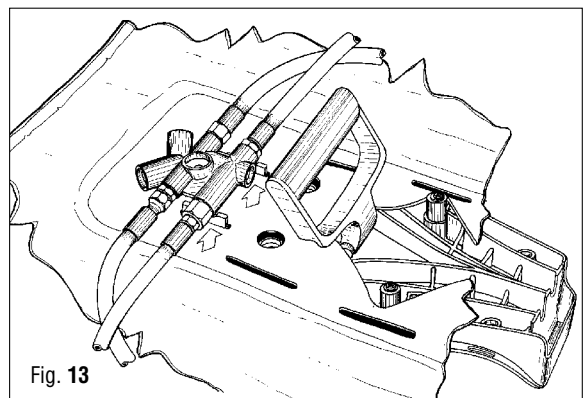
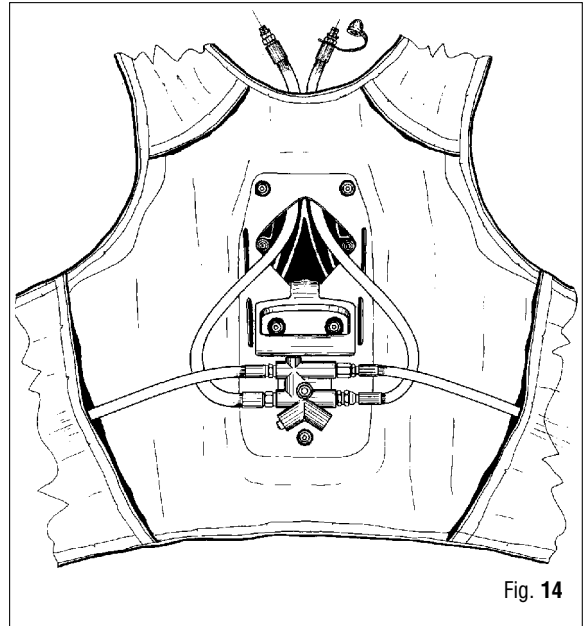

Fig. 13
Fig. 14
97. Position the 7-way manifold system assembly in tank plate support seat, outside the bag. (Fig. 13)
98. Lock the manifold with screw (3), using a screwdriver (USAG 322 PH1 type).
99. Put hose (7) in bag top opening, under inner right buttonhole, then connect it to pneumatic control (Fig. 14)
- 100.** Put the 1/2" LP hose (29) in bag top opening under inner left buttonhole and put it through pocket. (Fig. 14)
- 101.** Pass the two hoses around knob (9) and (6), and make them go through tank plate support grooves (15), under bag and make them go out from plate top, between plate and bag. (Fig. 14)